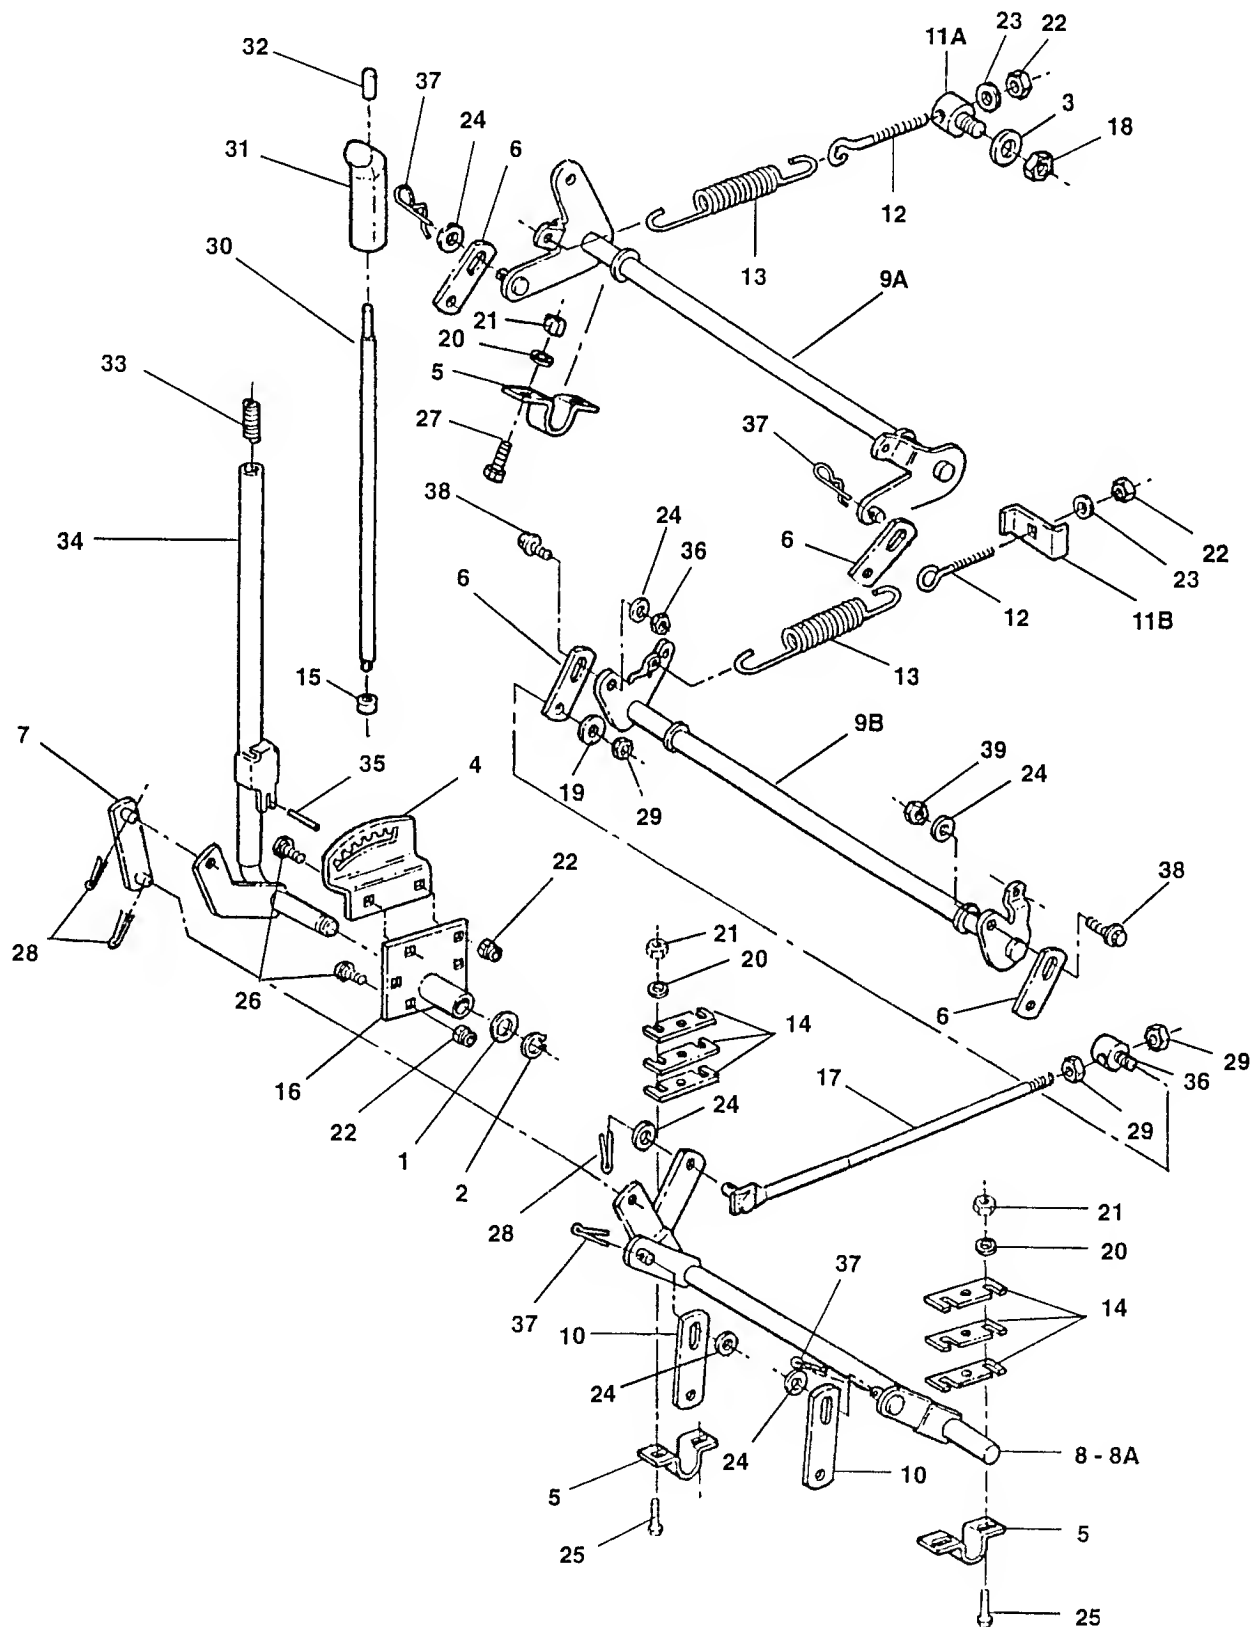

FIGURE 7.2
- C. Spray all Clevis Pin connections and both Assist Lift Springs with a rust inhibitor. See Figure 7.2.